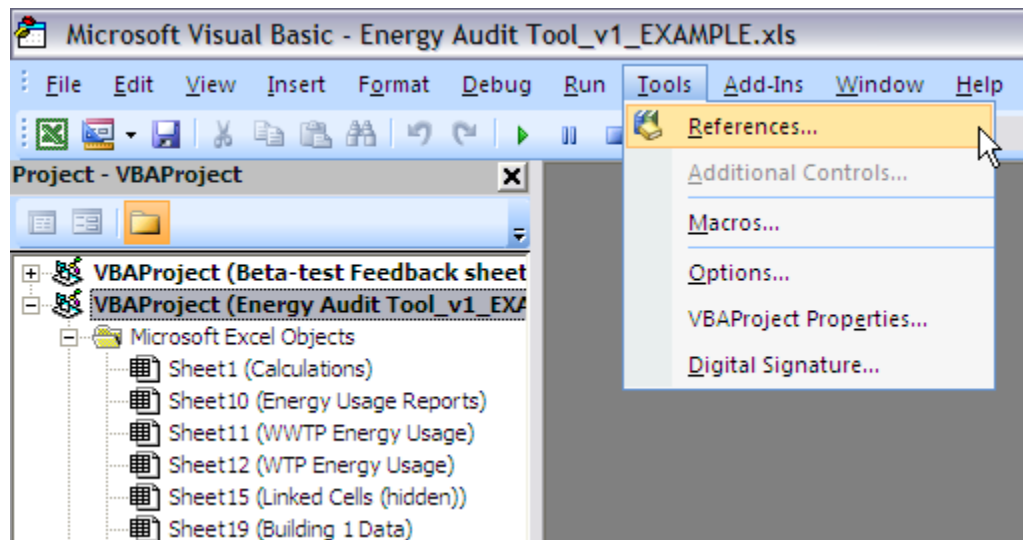

Figure D.2. Fixing the compile error.
- b. From the VBA editor, click the **Tools** menu, click **References**, shown in figure D.2